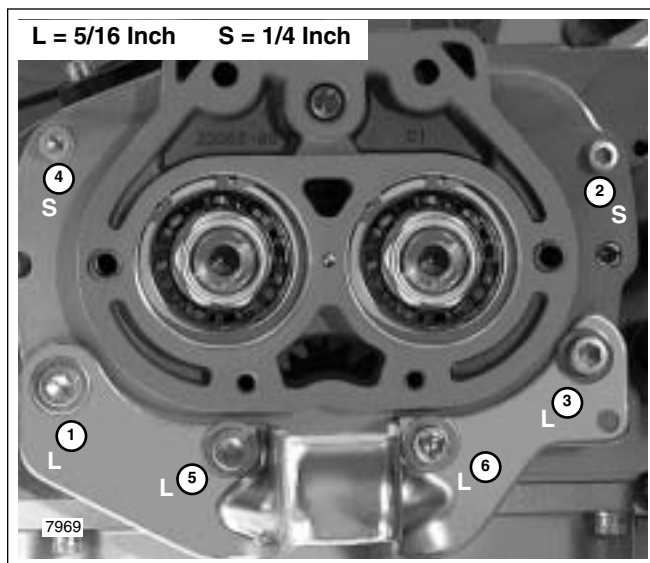

Figure 7-26. Side Door Screw Size and Torque Sequence
4. Resetting the torque wrench as necessary, tighten the four 5/16 inch screws to 13-18 ft-lbs (17.6-24.4 Nm) and the two 1/4 inch screws to 84-132 **in-lbs** (9.5-14.9 Nm) in the sequence shown in Figure 7-26.